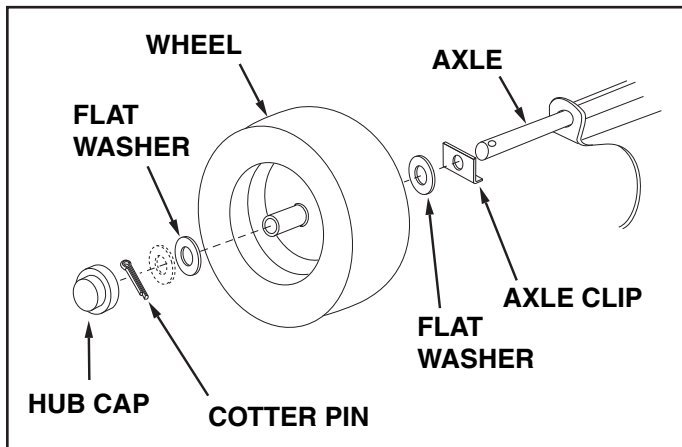

FIGURE 13
- Assemble an axle clip, a flat washer, a wheel with the valve stem facing out, and another flat washer onto each end of the axle. Place an additional flat washer on each end of the axle if there is space for it. Secure each wheel on the axle with a cotter pin, spreading the ends of the pin around the axle. Press a hub cap onto the flat washer on each end of the axle. See figure 13.
- Assemble the hitch pin through the hitch bracket and the tongue and secure with the 1/8" hair cotter pin. See figure 13.